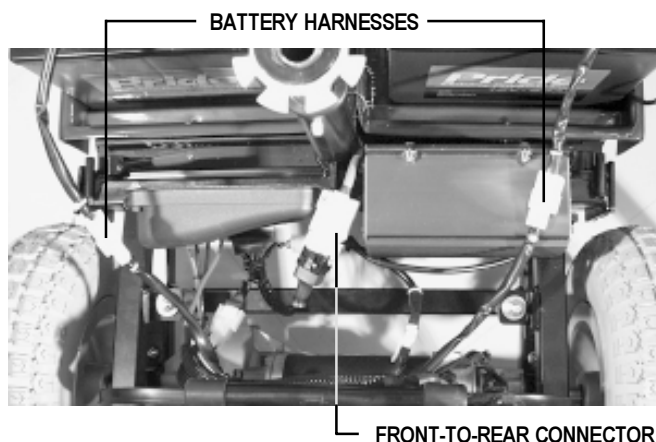

FIGURE 15. CABLE CONNECTIONS
5. Unplug both 2-pin battery harnesses. See figure 15.